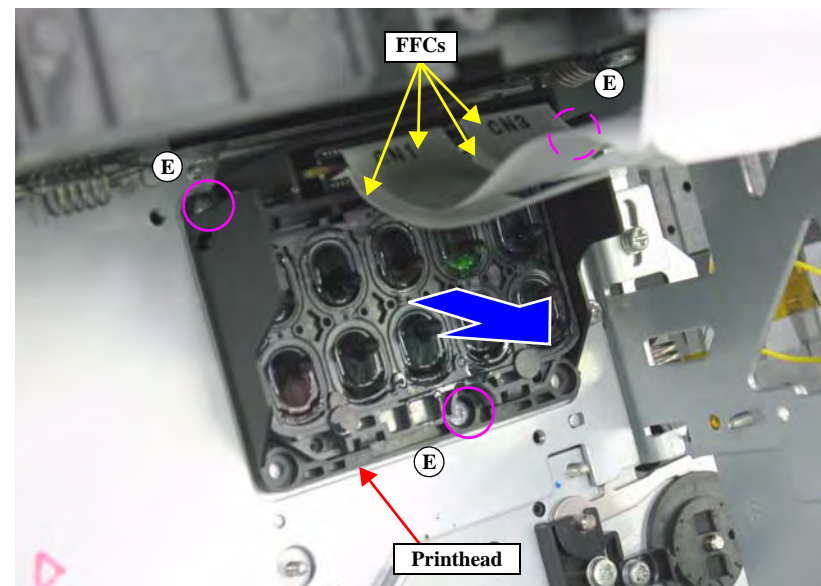

Figure 4-121. Removing the Printhead
16. Disconnect four FFCs from the Printhead. *See Figure 4-121.*
17. Remove the three screws that secure the Printhead, and remove the Printhead. *See Figure 4-121.*